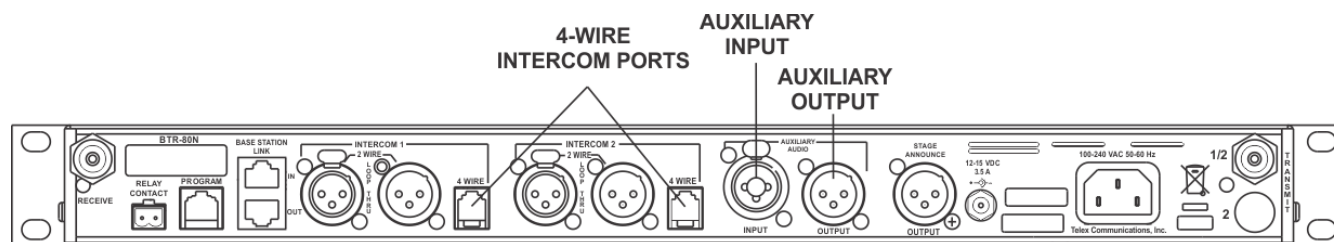
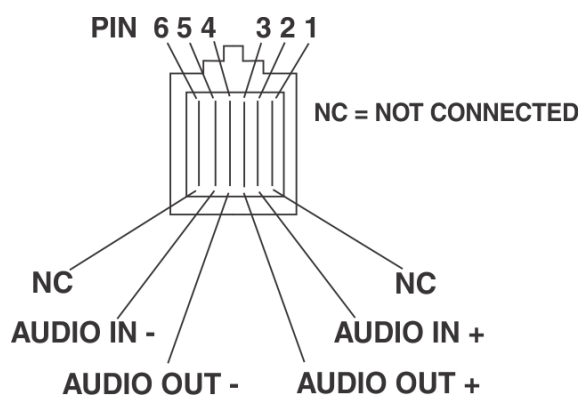

FIGURE 22. BTR-80N Rear View
FIGURE 23. Pinout of the 4-Wire Jack
The BTR-80N can connect to two (2) 4-wire audio intercom systems. These 6-pin modular jacks (RJ-11) are designated 4-wire under intercom 1 and 2 titles on the rear panel. (See Figure 22). The jack's pinout is shown in Figure 23.